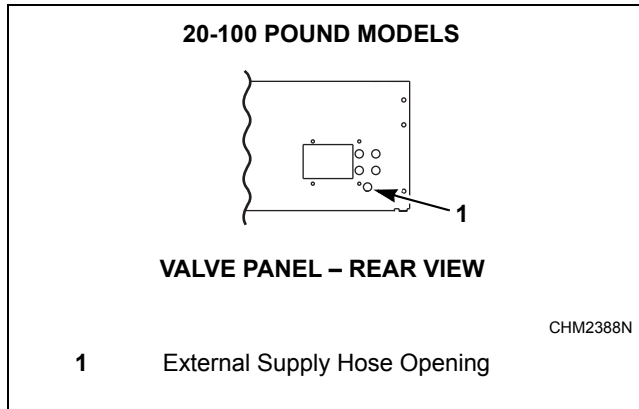

Figure 51
1. Facing the rear of the machine, locate the five 3/8 inch supply hose connections found on the right-hand side of the valve panel. Refer to *Figure 51*.